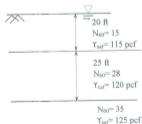

Fig.2
- 4(b). Calculate the axial compression capacity of a 30 inch diameter and 50 feet length (top at ground level) drilled shaft. The ground condition is shown in Fig.2 which consists of sandy soil. (12)